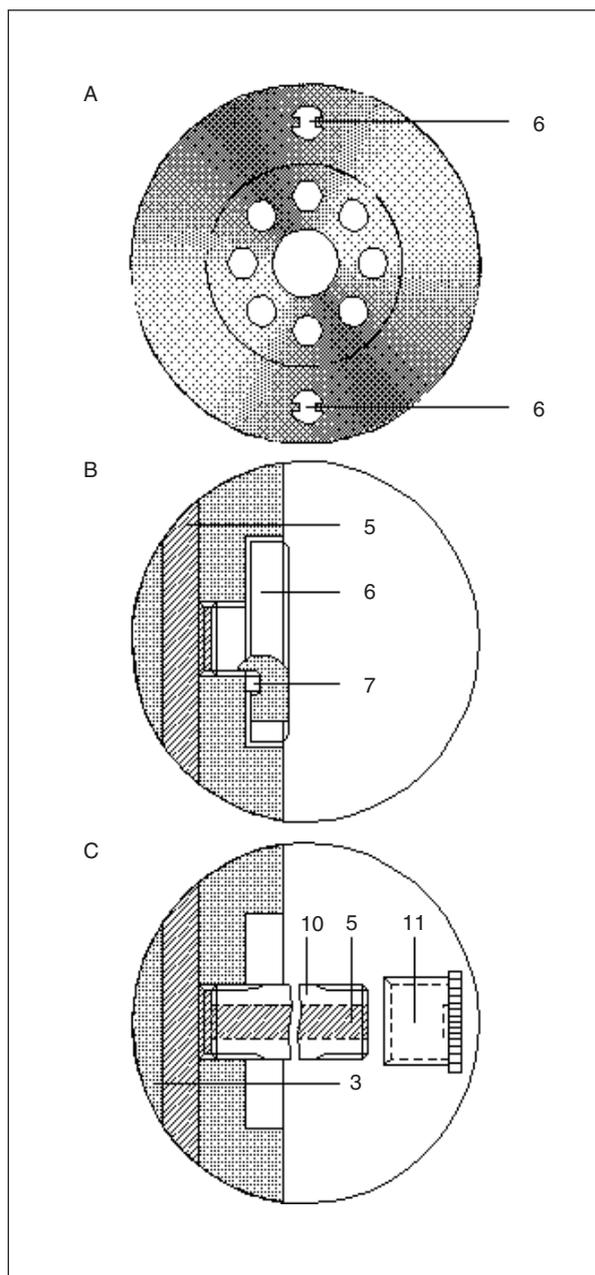

Fig. 2. Vibration Damper
3. Rotate the engine in order to bring the extraction plugs (6) of the damper in optimal position, see fig. 2 A .
4. Prepare the sample container (10) by removing one of its caps (11), see fig. 2 C.